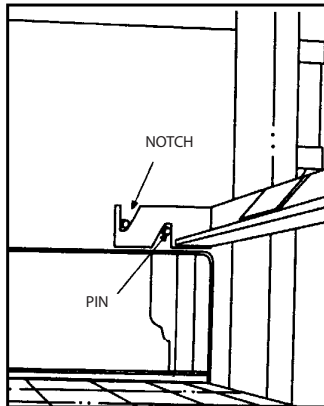

Figure 2
2. Rotate the finger brackets until the notches in the brackets sit on the retaining pins. (See **Figure 2.**)